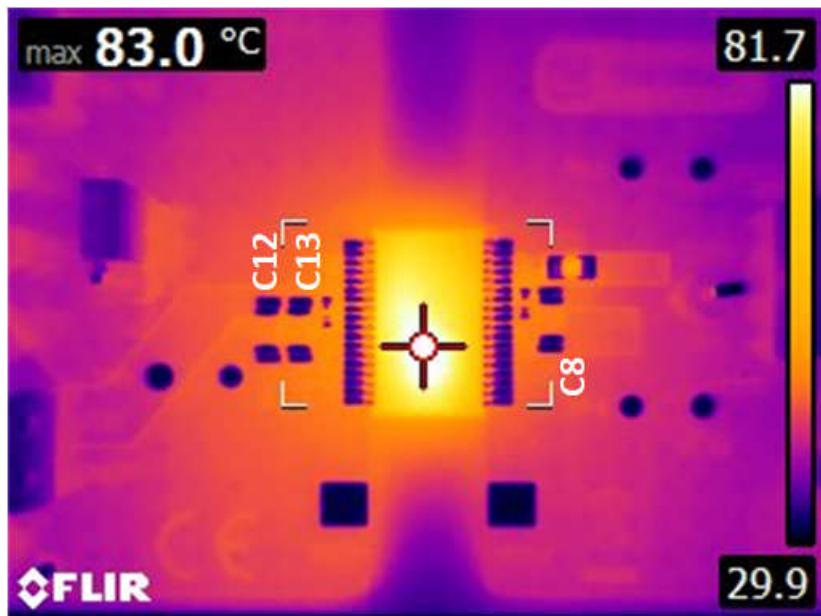

FIG 12-18. Thermal Image
- f. As seen in FIG 12-18, there is a point of diminishing return, regarding the number of vias and size of the thermal via array. For 1.5-W of output power, heat transfer is shown to quickly diminish just beyond C12 and C8. The distance from the inner pad line of U1 to C12 is 320 mils.